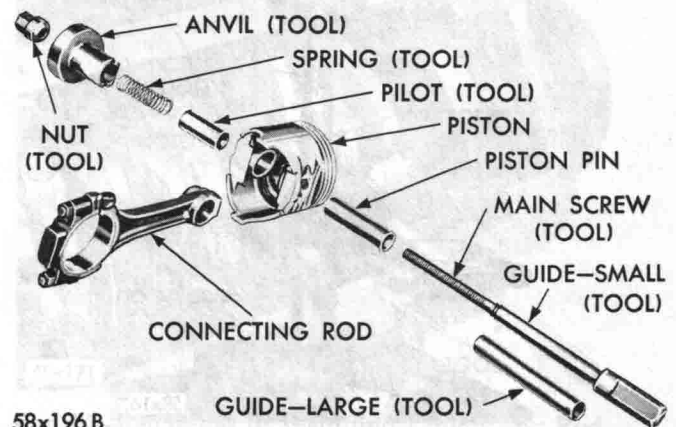

Fig. 48—Installing Piston Pin Using Tool C-3624
(3) Arrange the tool parts for installation of piston pin, as shown in Figure 48.
(4) Install the spring inside the pilot and install the spring and pilot in the anvil. Install the piston pin over main screw.
(5) Place piston, with "front" up, over pilot so that the pilot extends through the piston pin hole.
(6) Position connecting rod over the pilot which extends through the piston hole.
(7) Install the main screw and piston pin in the piston, as shown in Figure 48.